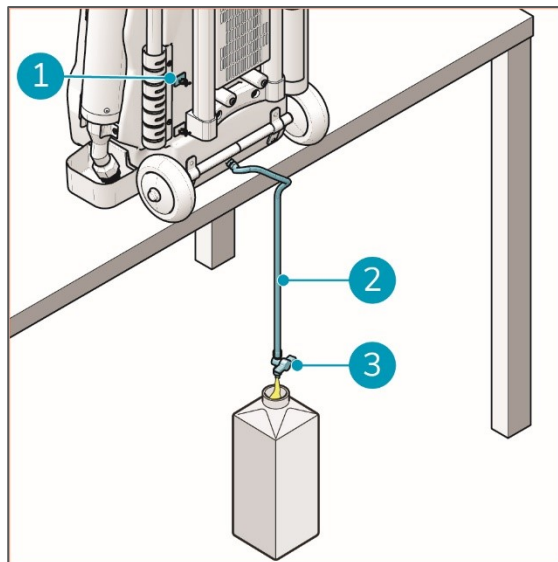

Figure 27
2. Release the drainage tube (fig 27, pos 2) via the clips (fig 27, pos 1).
5. Open tap (fig 27, pos 3).
6. When empty close tap (fig 27, pos 3).
8. Replace drainage tube (fig 27, pos 2) using clips (fig 27, pos 1).